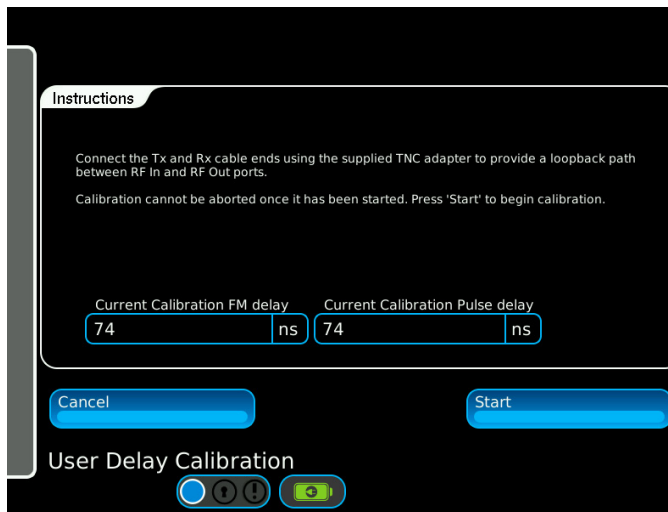

Fig. 4-13 Delay Calibration Screen
4. Select **Delay Calibration** to display the Delay Calibration screen (Fig. 4-13). This screen starts the calibration procedure for Test Set/RF coaxial cable delay.